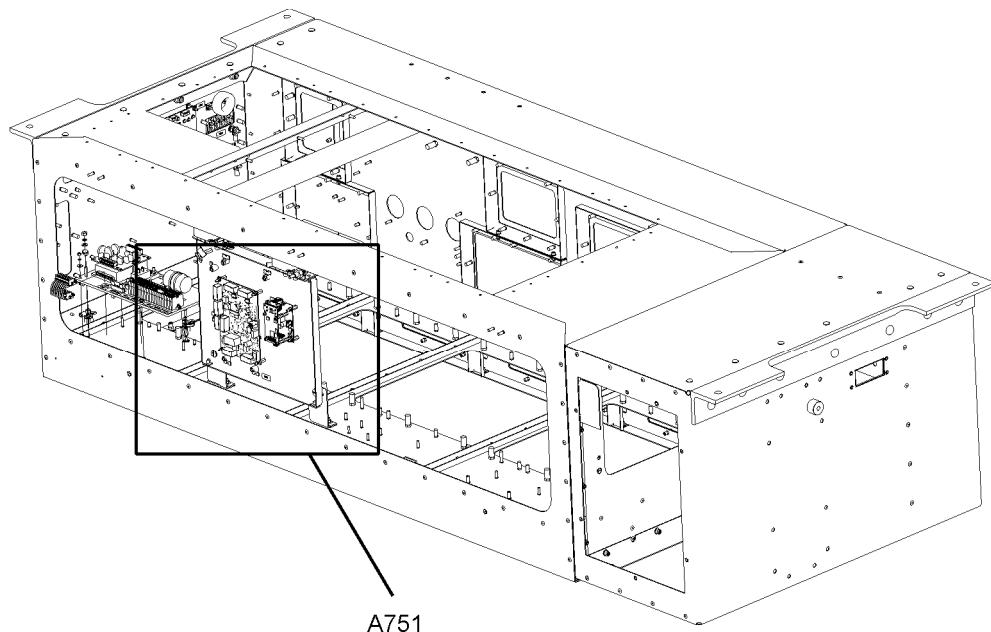

Figure 5-54: Location of A751
3. Locate A751. See Figure 5-54 for the location of the A751.